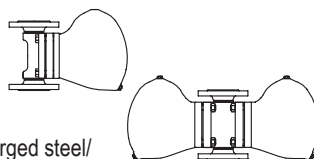

Fig. 633 / Fig. 639
(Fig. 633....1)
- Non return protection (except Fig. 633)
- On-site change of the installation position is possible according to the operating instructions (except Fig. 633)